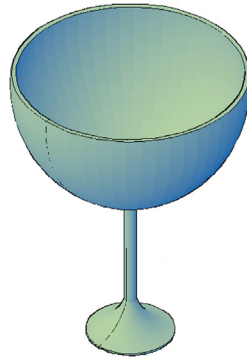

FIGURE 26.16 Revsurf example completed.
Step 5. Key in any value or press Enter for the full 360°. The result, shaded, is shown in Fig. 26.16.